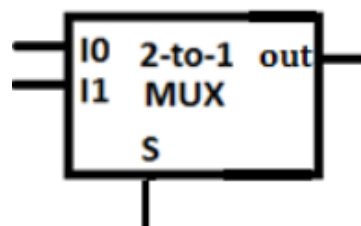

Figure 2: 2-to-1 MUX
- a) Fill-in the truth table for the 2-to-1 MUX shown in Figure 2.